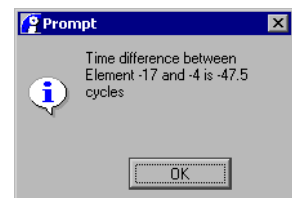

Figure 2-17 Time measurement dialog box
3. Select **Time Measure from Selected...** from the context menu. An Information dialog box is displayed, for example, Figure 2-17.